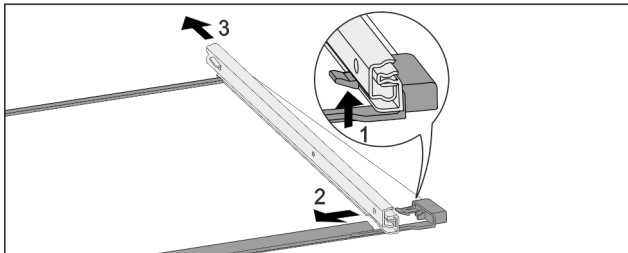

Fig. 73 Glass shelf with rails
- ▶ Push up front click-in hooks. Fig. 73 (1)
- ▶ Move the pull-out rails to the side Fig. 73 (2) and to the rear Fig. 73 (3).